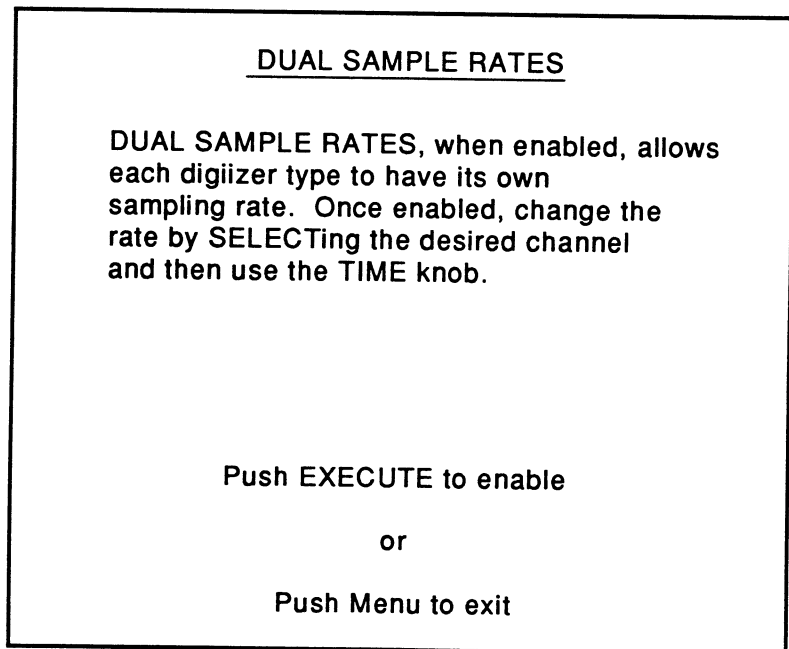

Figure 2 - Dual Sample Rates execution screen
3. Press the Execute button. The Dual Sample Rates execution screen appears (Figure 2).
Figure 2 - Two identical signals were input to channels 1 and 3 with the Time Per Point settings shown. Channel 1 captured one full cycle with its Time Per Point setting of 500 nS and channel 3 captured two full cycles with its Time Per Point setting of 1.0 μS.